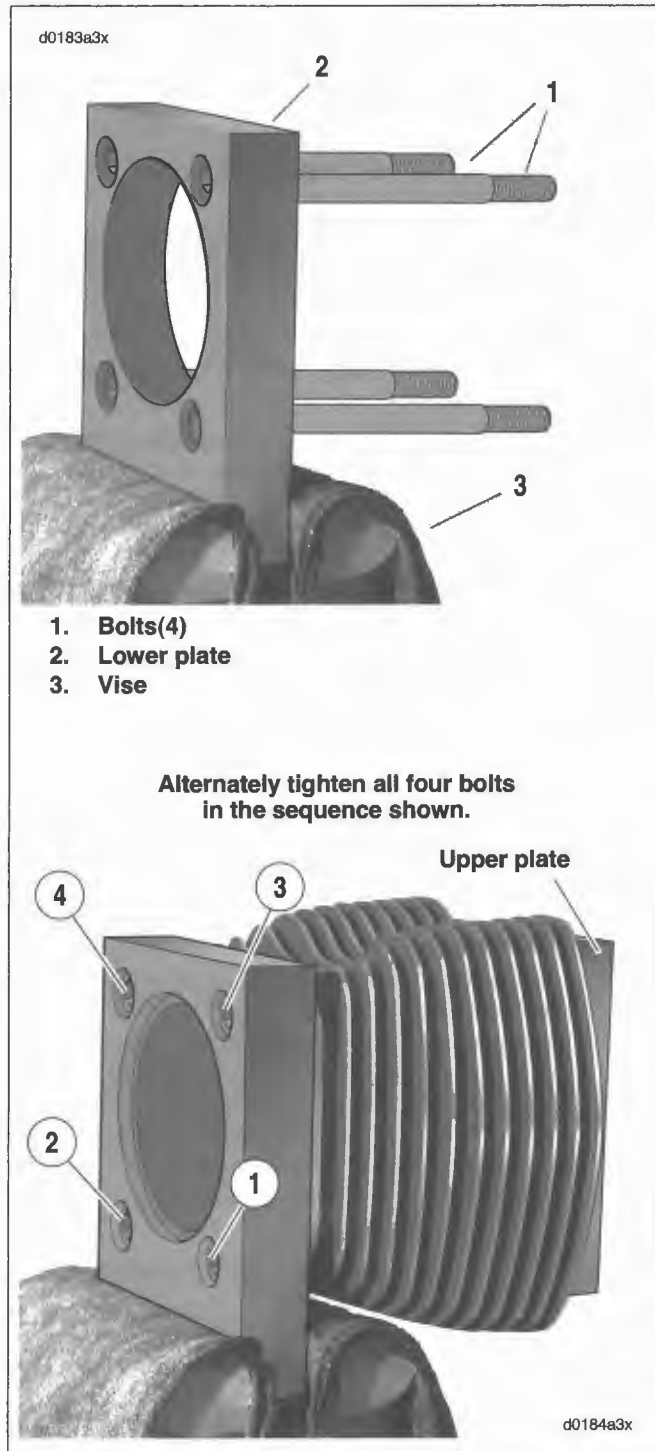

Figure 3-115. Attaching Cylinder Torque Plates
1. See Figure 3-115. To simulate an assembled cylinder for accurately measuring cylinder taper and out-of-round conditions, as well as for boring, honing or deglazing, obtain the CYLINDER TORQUE PLATES (Part No. HD-42324-A). Install the torque plates as follows:
- d. Lightly oil threads and shoulders of four bolts (1) with clean H-D 20W50 engine oil. Slide four bolts all the way through holes of lower plate (2) until washers contact outboard side.
- j. Using the marks as a guide, turn each bolt 1/4 turn or 90 degrees. Be sure to tighten the bolts in the sequence shown in Figure 3-115.